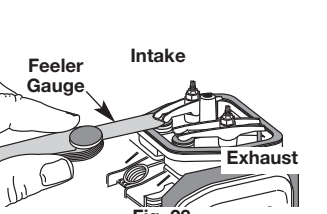

Fig. 23
5. Clean dirt from around the rocker arm cover. Remove the screw holding the rocker arm cover with a large flat blade screwdriver or Torx T-25 bit (Fig. 23). Remove the rocker arm cover and gasket.
- The piston is at the top of its travel while looking in the spark plug hole (Fig. 23).
The recommended clearance for both intake and exhaust is **.003 – .006 in. (.076 – 0.152 mm)**. Use a standard automotive .005 in. (0.127 mm) feeler gauge. The feeler gauge should slide between the rocker arm and valve stem with a slight amount of resistance, without binding. See Figures 23 and 24.